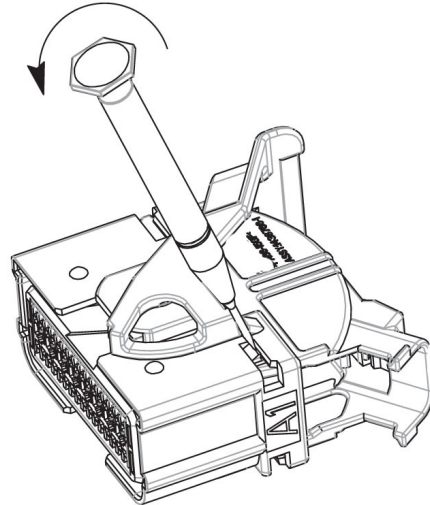

Figure 8
1. Position a jewelers' screwdriver (flat-blade 2.0 or 2.4 mm screwdriver) into the slot in the plug housing. The tip should be placed between the slot and the latch finger. See Figure 8.
The connector must be unmated (Paragraph 4.1) and the wire dress, if present, must be removed (Paragraph 4.2). Before removing contacts from the plug housing, the TPA lock must be moved back into the open (pre-set) position. To open the TPA lock and remove the contacts, proceed as follows: Figure 8.